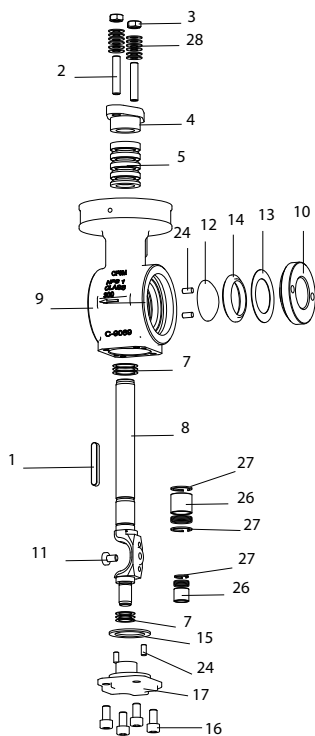
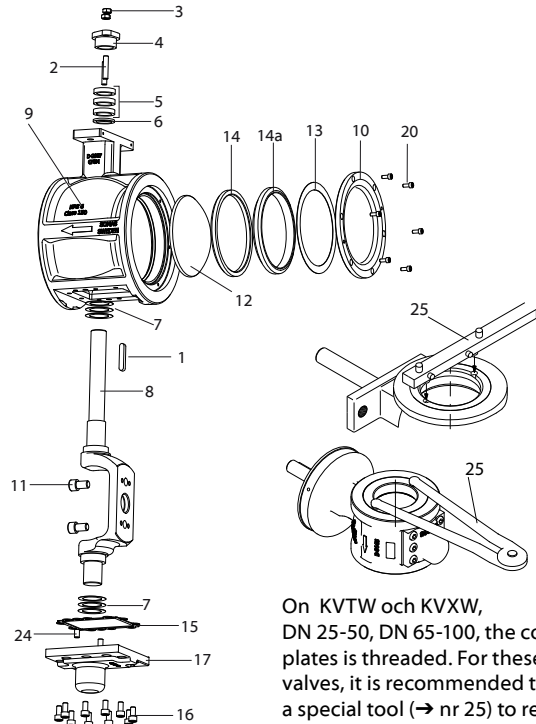

Fig.6-4
Fig.6-6
1. Remove the cover plate (→ Fig.6-4/10) with special tool (→ Fig.6-6/25).
2. Remove spring washer (→ Fig.6-4/13), seat (→ Fig.6-4/14).
On KVTW och KVXW, DN 25-50, DN 65-100, the cover plates is threaded. For these valves, it is recommended to use a special tool to remove the cover plates (→ Fig.6-6/25).
2. Lubricate the seat surfaces and the screws of the cover plate (→ Fig. 6-6/20) with molybdenum disulfide paste. For valves with a screw-on cover plate, also lubricate the thread in the valve body.